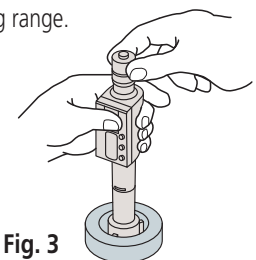

Fig. 3
1. To apply measuring force, bring the measuring face into light contact with the workpiece and hold there. Then rotate the ratchet 5 to 6 times (giving 2 to 3 turns) to apply constant force. **(Fig. 3)**